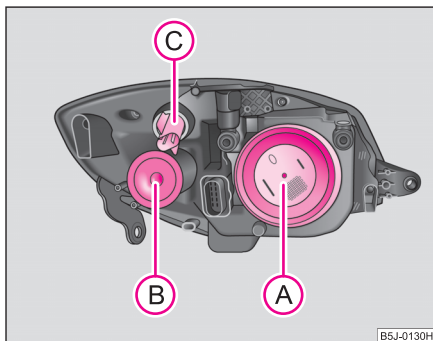

Fig. 171 Front headlight:
Positions of the light bulbs in the front headlight ⇒ fig. 171.
- Remove the protective cap Ⓐ ⇒ fig. 171.
- Turn the lamp holder (C) to the left ⇒ page 241, fig. 171 and remove the lamp holder with the light bulb.
- Remove the protective cap (B) ⇒ page 241, fig. 171.